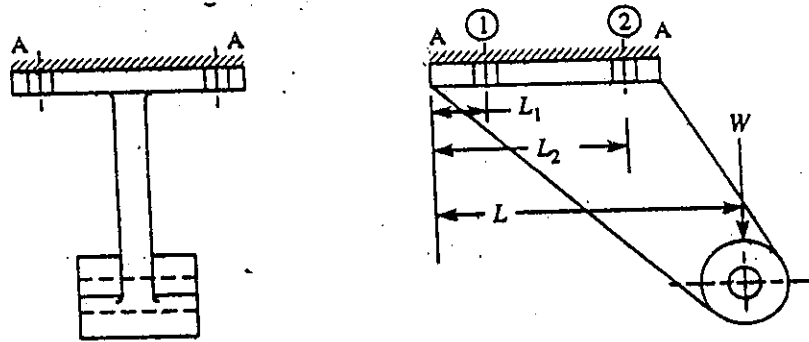

FIGURE-1.
(d) Explain the method of determining the size of the bolt when the bracket carries an eccentric load acting parallel to the axis of bolts as shown in **FIGURE -1.** (8)
2. (a) What is a Bearing? How will you classify the Bearings? (4)